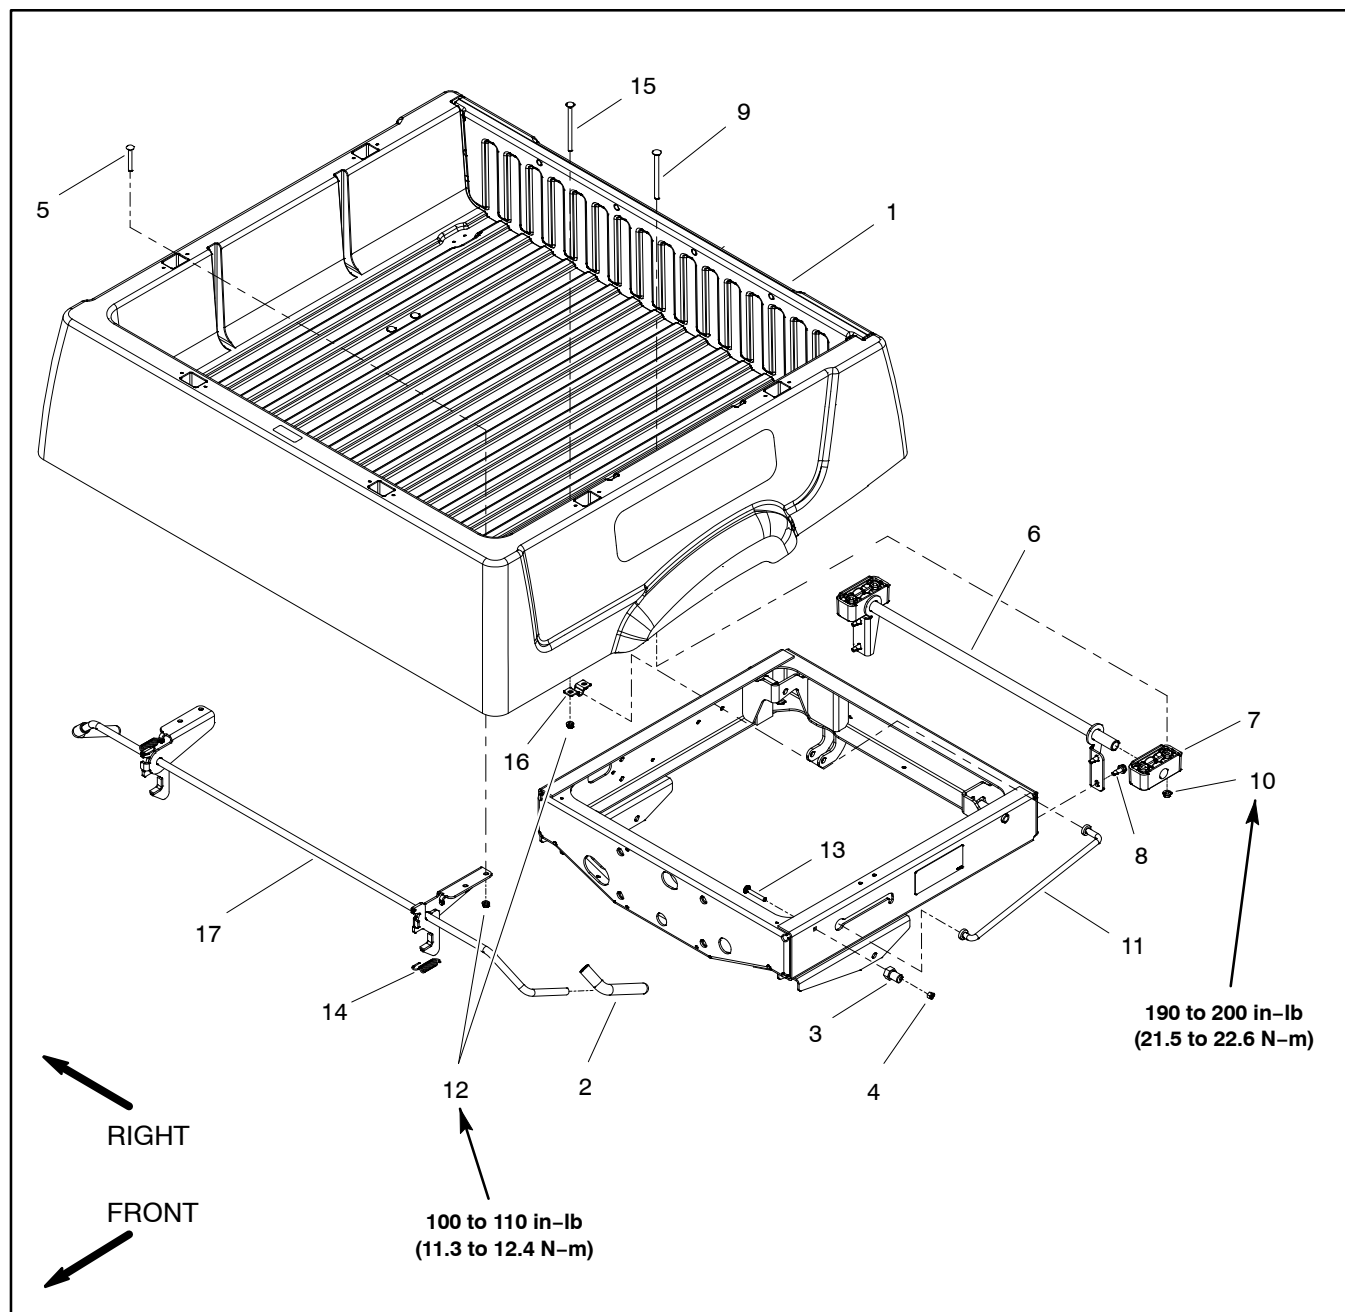

Figure 39
Removal (Fig. 39)
2. Disassemble cargo box as necessary using Figures 39 and 40 as guides.
Installation (Fig. 39)
1. Assemble cargo box using Figures 39 and 40 as guides.
A. When installing cargo box, use torque specifications identified in Figure 39.
B. Adjust latch pin (item 3 in Figure 39) so that cargo box is tight to frame when latched.